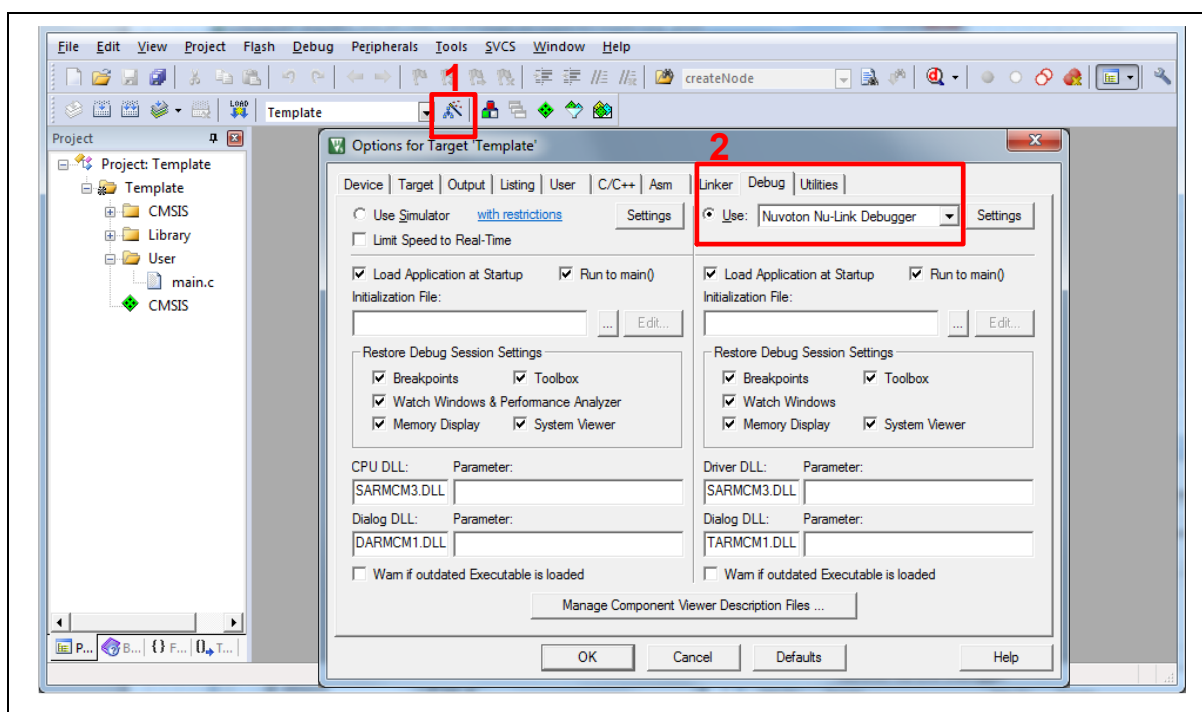
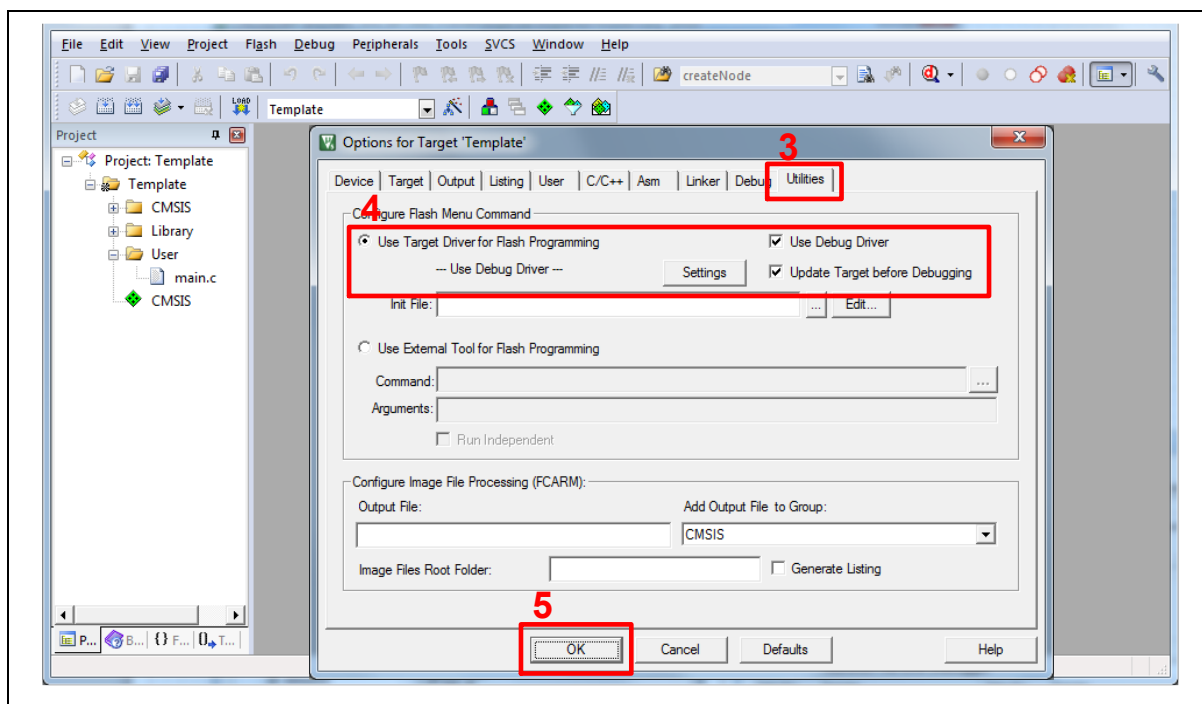

Figure 4-10 Debugger Setting in Options Window
Figure 4-11 Programming Setting in Options Window
2. Make sure the debugger is “Nuvoton Nu-Link Debugger” as shown in Figure 4-10 and Figure 4-11.
Note: If the dropdown menu in Figure 4-10 does not contain “Nuvoton Nu-Link Debugger” item, please rework section .